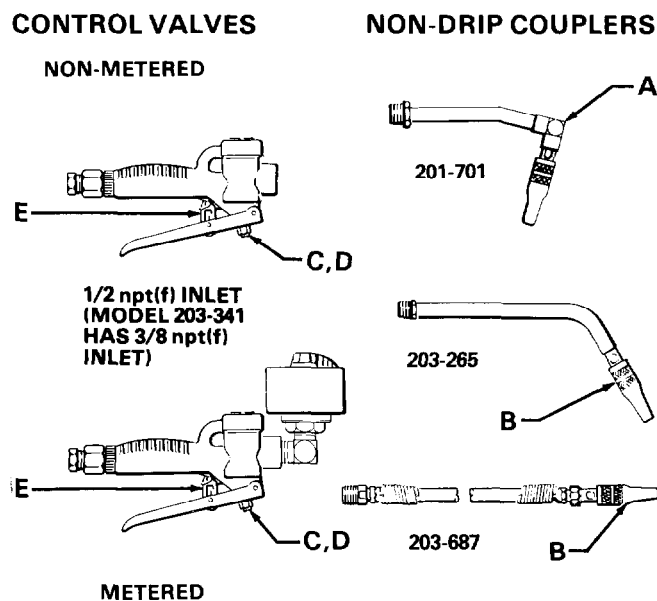

Fig 3
Set non-drip coupler in "automatic" position by turning thumbscrew (A) counterclockwise or housing (B) clockwise two or more turns. See Fig 3. When set in "automatic" position, coupler will automatically open and close with the control valve.
Trigger control valve. With non-drip coupler set in "automatic" position, lubricant flow begins with the slightest movement and continues until trigger is released. When dispensing light fluids, such as automatic transmission fluid, the degree of trigger play should be increased to reduce the flow and reduce splashing of fluid. To reduce flow, loosen adjusting screw locknut (C) and back screw (D) out until desired flow reduction is achieved, then tighten locknut securely. See Fig 3.
To lock control valve in open position, engage trigger latching pin in slot in latch (E). See Fig 3. To release latch, squeeze and release trigger.